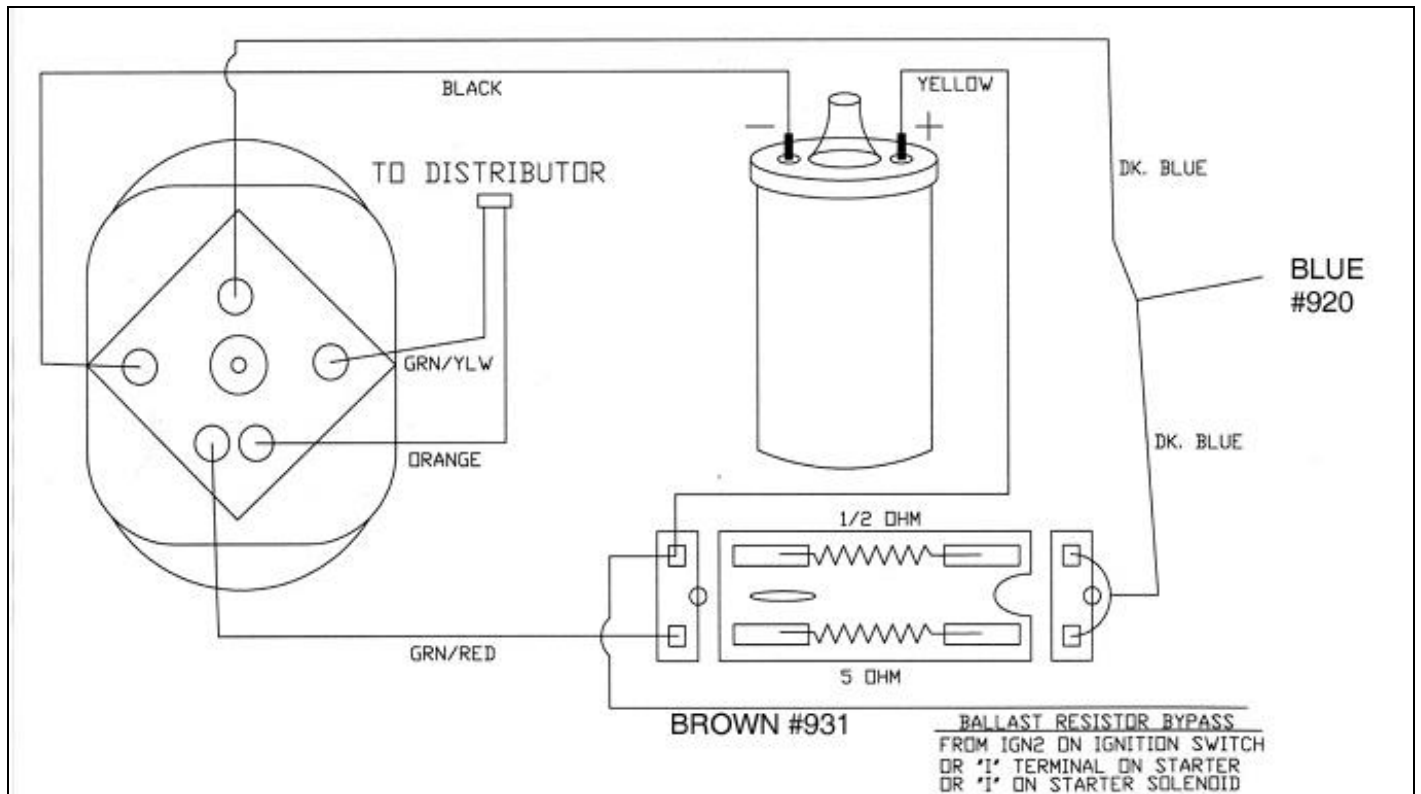

Figure 7-2B Mopar Electronic Ignition with Dual Ballast Resistor
- 7.2.9** If using a Mopar Dual ballast resistor, see **Figure 7-2B**.